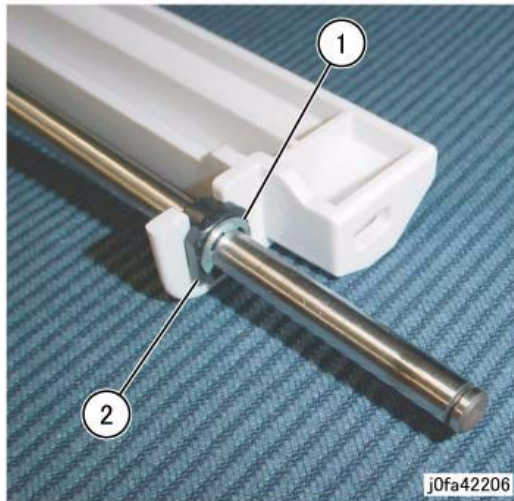

Figure 6 Removing Bearing
9. Remove the Bearing (Figure 6):